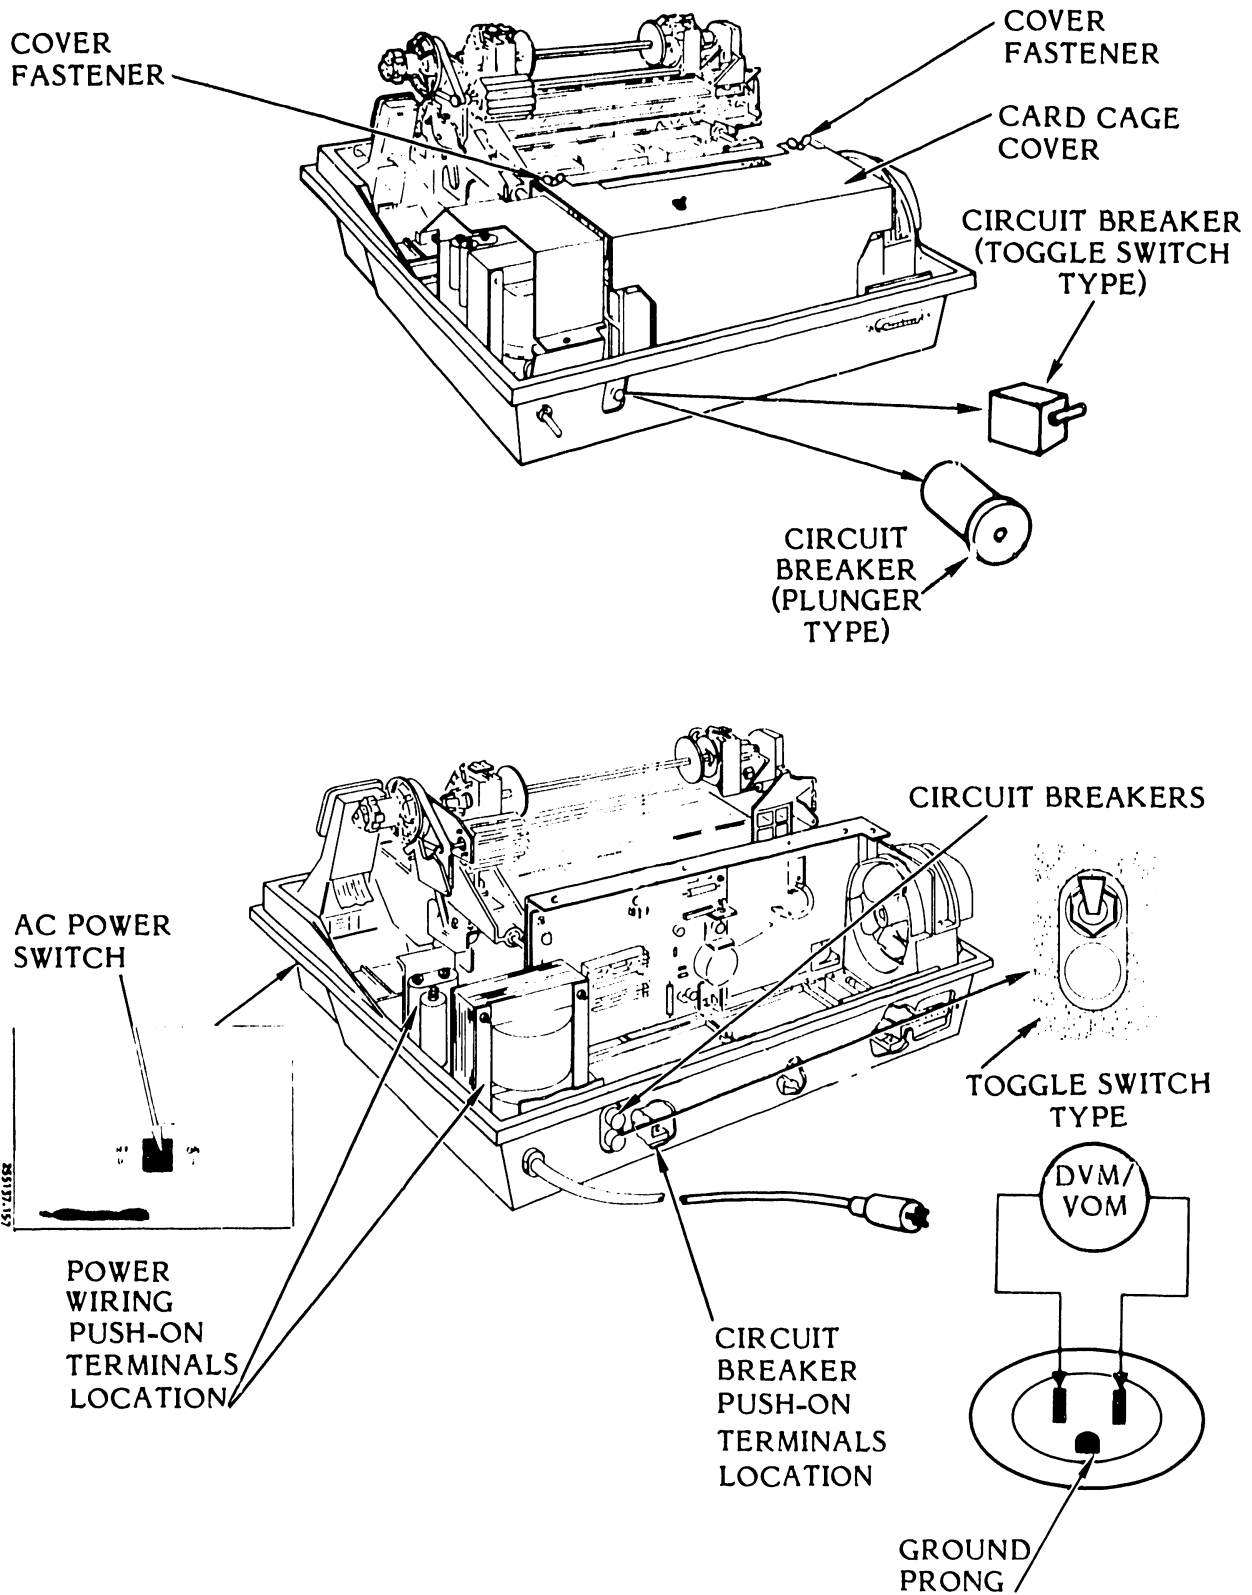

Figure 3-24. Power Switch/Circuit Breaker Test
3.5.8 Power Switch/Circuit Breaker Test (Figure 3-24)
2. Actuate the AC power switch to ON and OFF. The meter reading should switch between a short condition and a resistance of approximately one (1) ohm.
3. If the test fails, disconnect the AC power switch wires at the push-on terminals running along the side of the printer base (see figure 3-24).
8. Make sure that the circuit breaker is not actuated (plunger is in or toggle lever is up) (see figure 3-24).